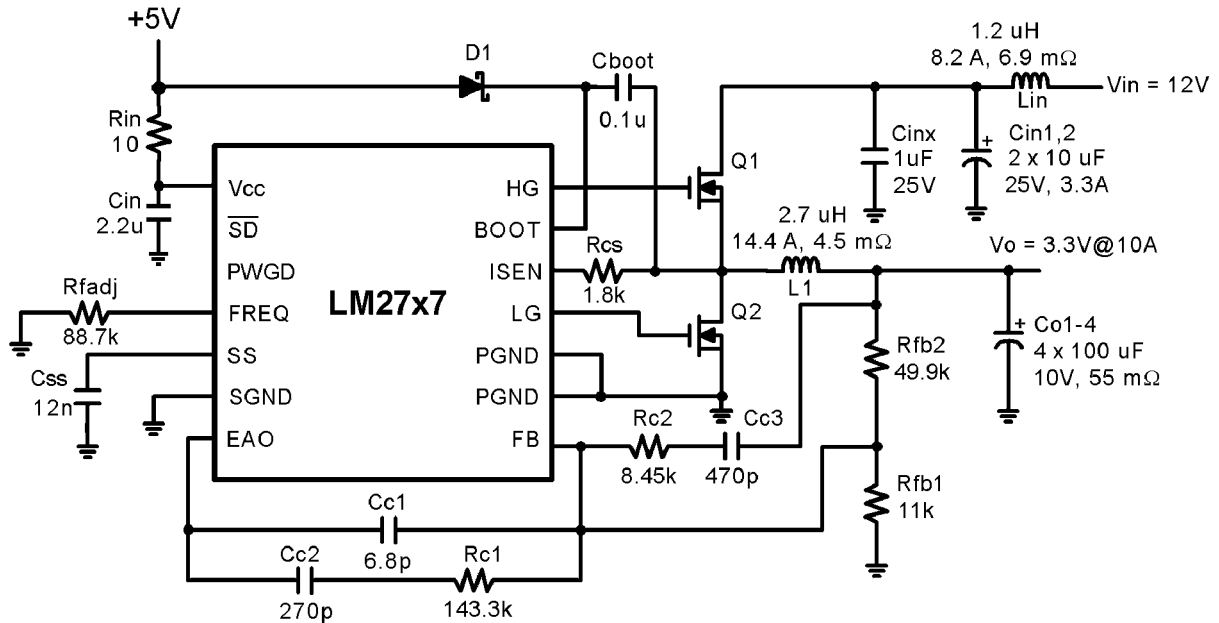

FIGURE 2. 5V-16V to 3.3V, 10A, 300kHz
**TABLE 2. Bill of Materials for Circuit of Figure 2